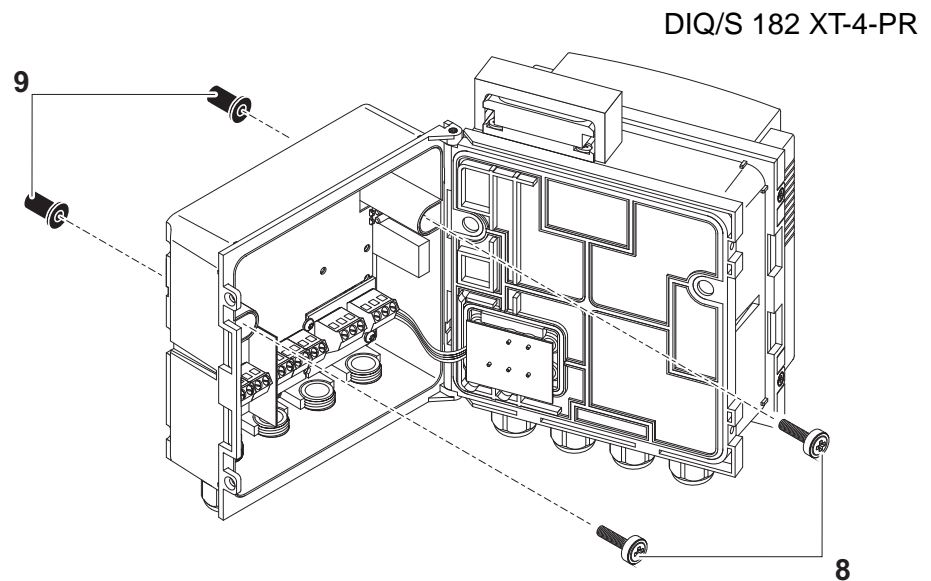

Fig. 3-4 Premounting the ISO blind nuts (variant 1)
| 6 | Insert the cheese-head screws (pos. 8 in Fig. 3-4) with the plastic washers in the drilled mounting holes in the enclosure and loosely screw in the ISO blind nuts (pos. 9). |
| 7 | Attach the prepared DIQ/S 182-XT-4-MOD onto the cover of the MIQ module. At the same time, ensure that the two clips on the DIQ/S 182-XT-4-MOD click into place in the lid of the MIQ module. Subsequently, tighten the two screws (pos. 8 in Fig. 3-4). |